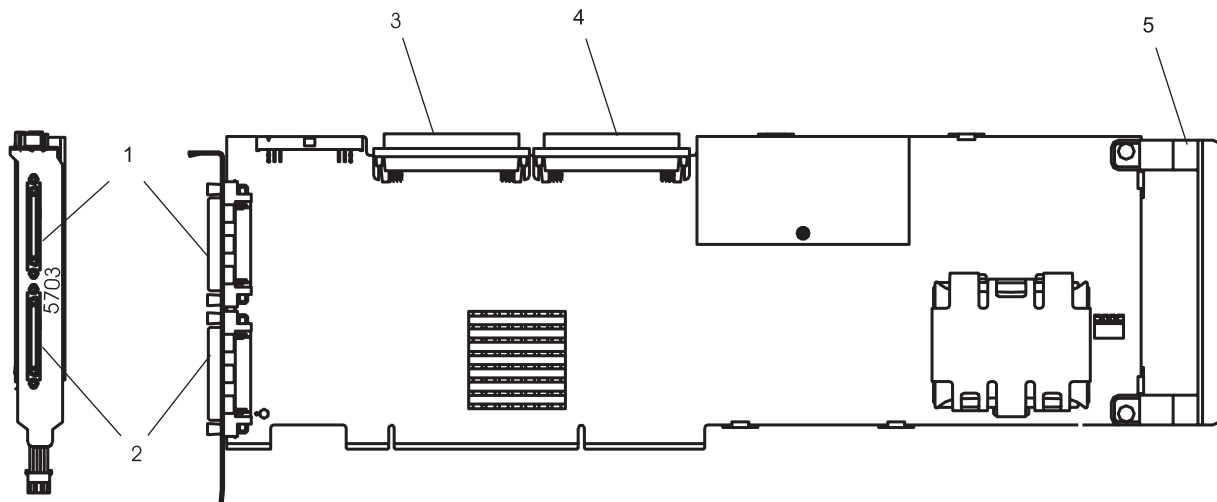

Figure 1. PCI-X Dual Channel Ultra320 SCSI RAID Adapter
1. Remove the two screws that hold the handle to the adapter. Refer to Figure 1 on page 1.